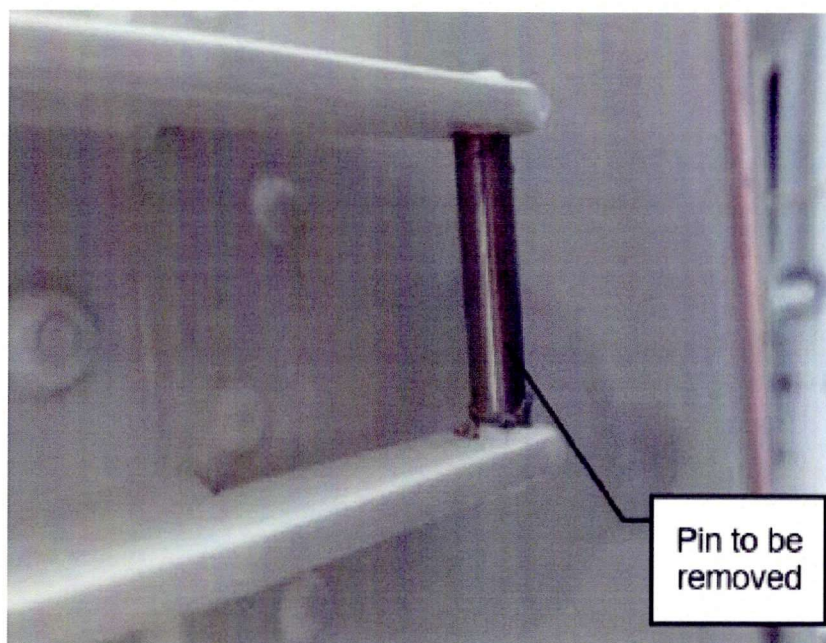

FIGURE 2: OEM LOWER BRACKET PIN
1. Remove the pressed pin, located on the OEM lower bracket, shown in Figure 2 of this DSI.